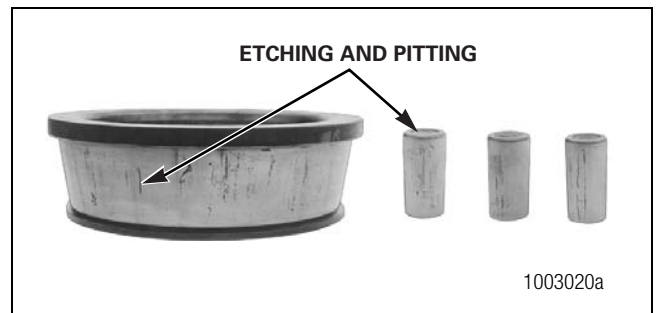

Figure 5.4
- The rollers are damaged. Figure 5.4.